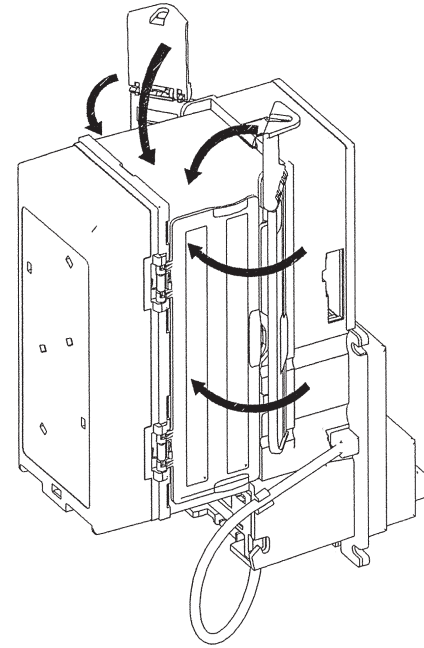

Figure 4
Step 2: Rotate the hasps inward toward the magazine then close the top of the hasps so that they are positioned on the top of the magazine (See Figure 4).